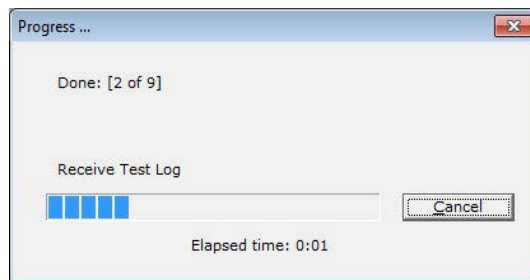
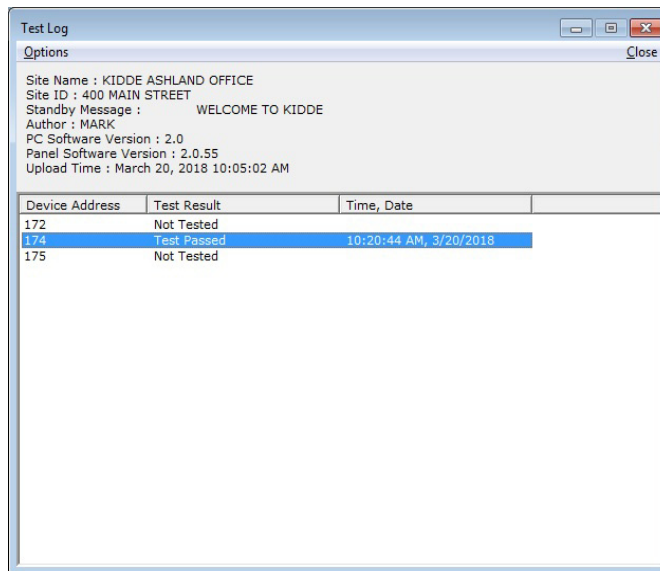

Figure 4-33. Receive Test Log Progress
Figure 4-34. Test Log Screen
4. Select <OK>. In response, progression of the test log download (Figure 4-33) is displayed. When download is complete, the test log (Figure 4-34) is displayed. Within the test log, there are two menu options: **Save As** and **Print**.